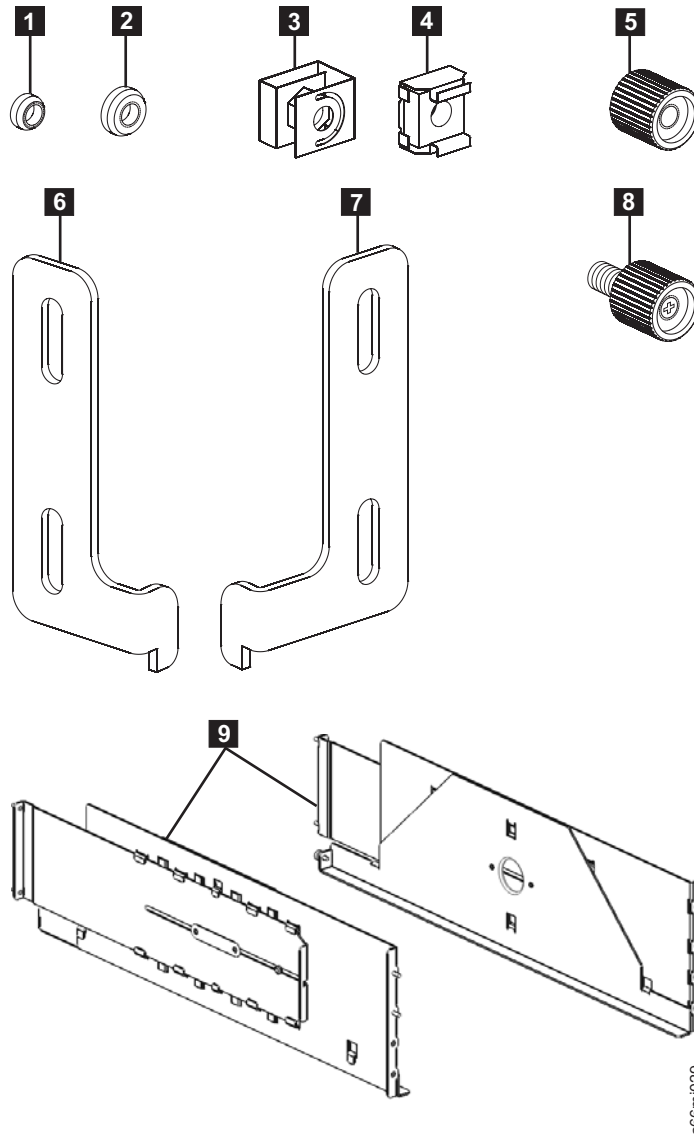

Figure 3-11. Rack Mount Kit hardware (parts not sized proportionately in figure)
16	Centering nuts: <ul style="list-style-type: none"> • 8 for racks with round holes (1 in Figure 3-11) • 8 for racks with square holes (2 in Figure 3-11)
8	Black thumb nuts (5 in Figure 3-11)
2	Rack ears (6 and 7 in Figure 3-11):
4	Rack ear screws (8 in Figure 3-11):
2	Rails (9 in Figure 3-11 on page 3-12)
8	Clip/Cage nuts: <ul style="list-style-type: none"> • 4 clip nuts for racks with round holes (3 in Figure 3-11 on page 3-12) • 4 cage nuts for racks with square holes (4 in Figure 3-11 on page 3-12)
2	Rack ears (6 and 7 in Figure 3-11 on page 3-12):
4	Rack ear screws (8 in Figure 3-11 on page 3-12):
The rails (**9** in Figure 3-11 on page 3-12) in the Rack Mount Kit require five EIAs of vertical rack space and are installed in the lowest five EIAs of the selected rack location for the library.
3. For a 14U library, install clip nuts (**3** in Figure 3-11 on page 3-12) for vertical rack rails with round holes or cage nuts (**4** in Figure 3-11 on page 3-12) for vertical rack rails with square holes in the front rack rails in the following positions:
- Use the round hole centering nuts (**1** in Figure 3-11 on page 3-12) for vertical rack rails with round holes.
- Use the square hole centering nuts (**2** in Figure 3-11 on page 3-12) for vertical rack rails with square holes.
- b. Place a thumb nut (**5** in Figure 3-11 on page 3-12) on each stud and tighten.